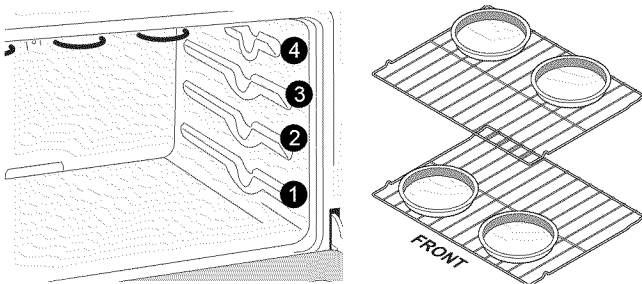

Figure 15: Rack positions and pan spacing recommendations
- When baking using two oven racks, position bakeware as shown in Figure 15. Place the top rack in position 3 and the bottom rack in position 1. Allow at least 2 inches (5 cm) of space between bakeware for proper air circulation and use the offset rack (if available) in the bottom position.